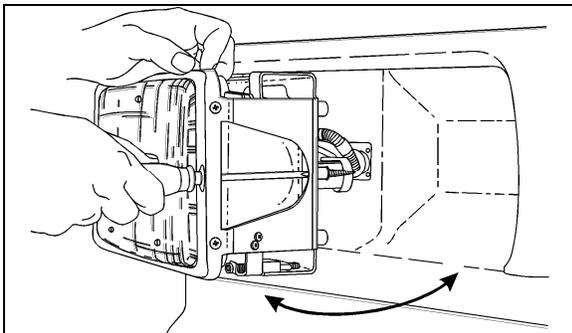

FIGURE 52: HEADLIGHT ASSEMBLY 06405
1. Remove screw fixing headlight assembly to its housing (Fig. 52) and pivot assembly out.